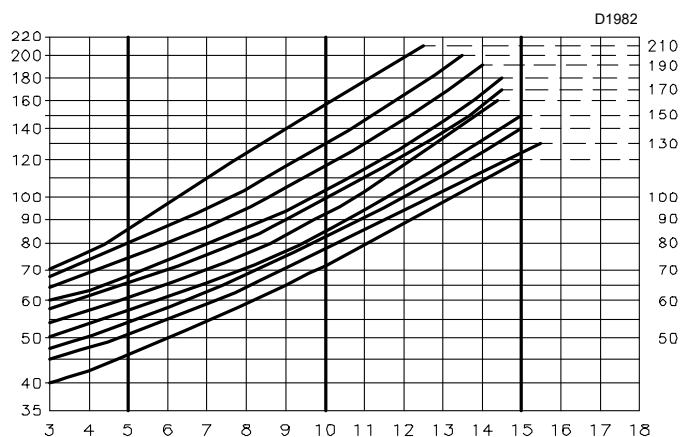
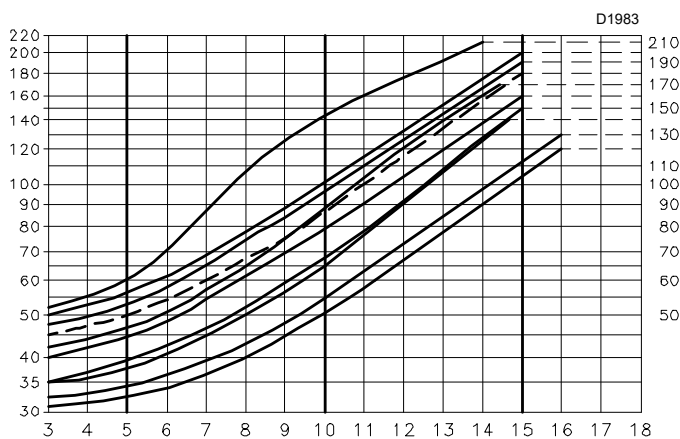

Fig. 17
Fig. 18
- Bergonzo type A3 - angle 45° (Fig. 17)
- Bergonzo type A4 - angle 45° (Fig. 18)
If you want a delivery somewhere between the two values shown in the diagram (Fig. 17 and Fig. 18), select a nozzle with a higher flow rate.